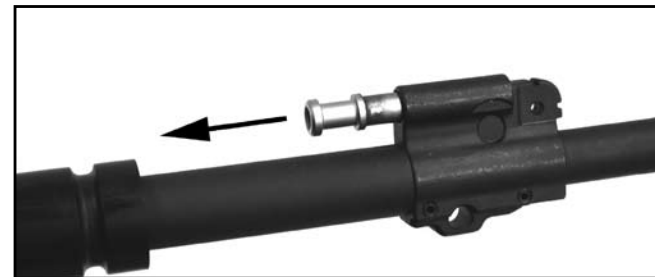

Fig. 47 – Removing Gas Piston
d. Slide the gas piston to the rear and remove the gas piston from the gas block (Fig. 47).